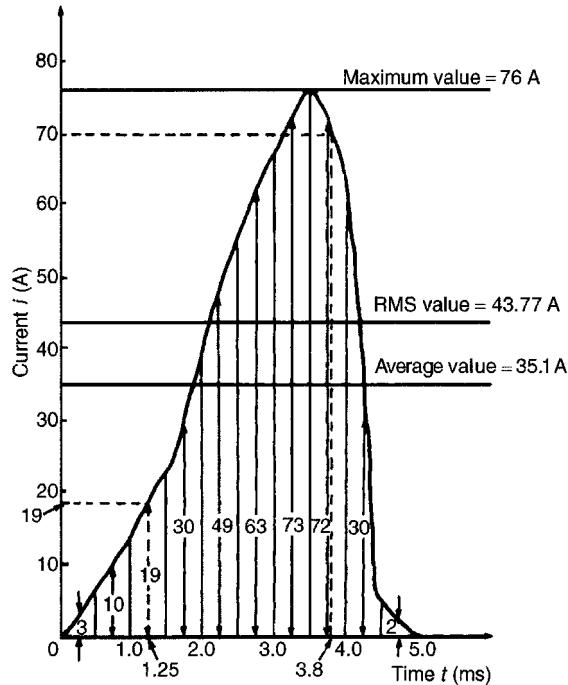

Figure 14.6
The half cycle of alternating current is shown plotted in Fig. 14.6
- (b) Instantaneous value of current after 1.25 ms is **19 A**, from Fig. 14.6. Instantaneous value of current after 3.8 ms is **70 A**, from Fig. 14.6
$$\begin{aligned} \text{area under curve } \} &= (0.5 \times 10^{-3})[3 + 10 + 19 + 30 \\ &\quad + 49 + 63 + 73 + 72 + 30 + 2] \\ &\quad (\text{see Fig. 14.6}) \\ &= (0.5 \times 10^{-3})(351) \end{aligned}$$